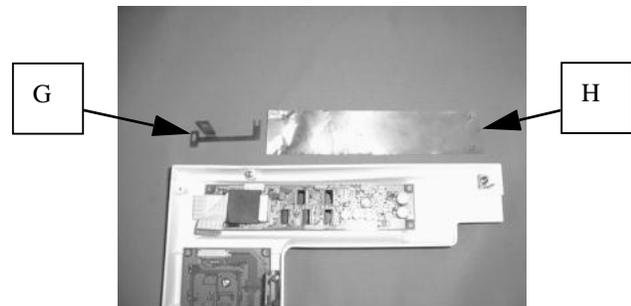

FIGURE 6-5
I. Remove the front panel bracket(G) by removing 2 bind taptight screws 3x8. Fig.6-5
II. Remove the shield cover(H) by removing 4 bind taptight screws 3x16. Fig.6-5